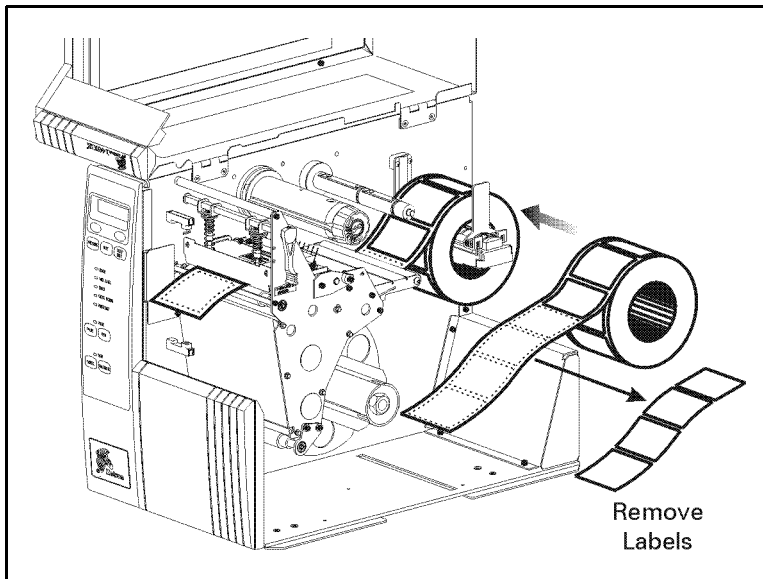

Figure 11
4. Open the printhead. Remove approximately 8" (200 mm) of labels from the media roll, enough so that only the backing material is threaded between the media sensors when the media is loaded (refer to Figure 11).